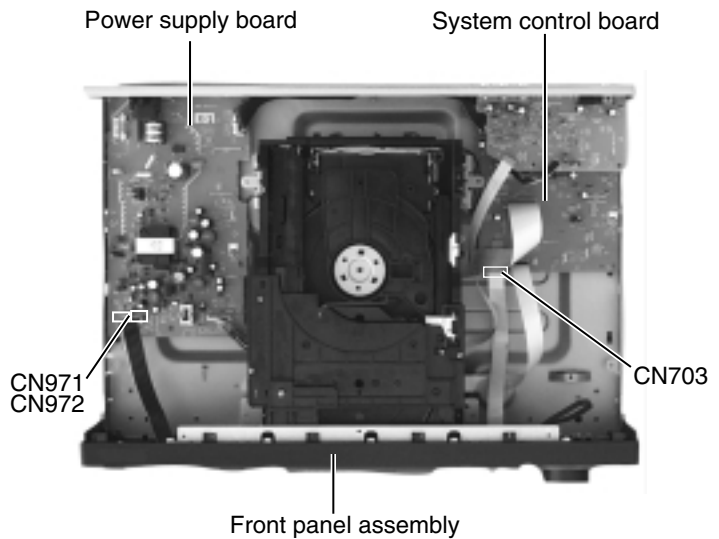

Fig.2
■ Removing the Front panel assembly (See Fig.2 to 5)